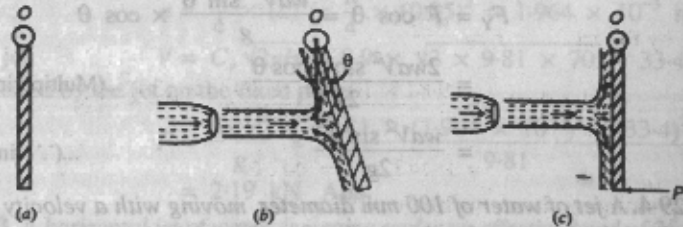

Fig. 29-3. Jet impinging on a hinged plate.
In the previous articles, we have studied that whenever a jet is impinging on a plate, it exerts some force on it. Now we shall discuss the effect of this force on a hinged plate. Now consider a plate hinged at O as shown in Fig. 29-3 (a).
Let a jet be allowed to strike on a hinged plate. As a result of this jet strike, the plate will swing about the hinge, through some angle as shown in Fig. 29-3 (b). The angle, through which the plate will swing, may be found out by taking moments of the force of jet and the weight of plate about the hinge.
If it is required to keep the plate vertical, then some force (P) has to be applied on the plate as shown in Fig. 29-3 (c). The value of this force (P) may also be found out by taking moments about the hinge, as usual.